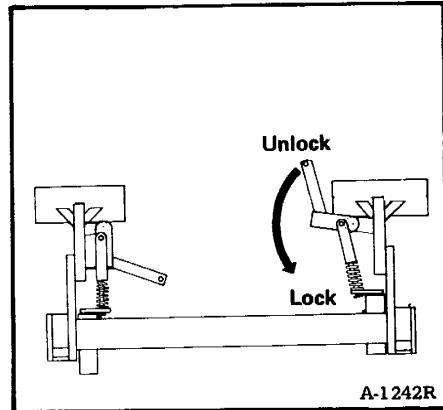

Fig. 12 Bob-Tach System
## BOB-TACH SYSTEM (Figure 12)
5. Engage locking mechanism by rotating levers downward into locked position (Figure 12).